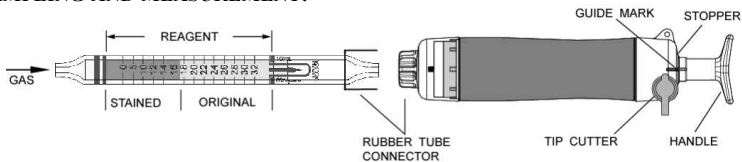

Fig.1
- ② Insert the detector tube into the aspirating pump securely as shown in Fig.1. (Arrow mark shall point to the pump.)
- ③ Align the guide marks on the handle and stopper of the aspirating pump.
- ④ Pull the pump handle at a full stroke until it locks and wait for 30 seconds or until the completion of sampling is confirmed with the flow indicator of the pump. (See descriptions about the flow indicator in the instruction manual of the pump.)
- ⑤ On completion of sampling, read the scale at the maximum point of the purple stained layer.
① Temperature; Correct the tube reading by following temperature correction table.